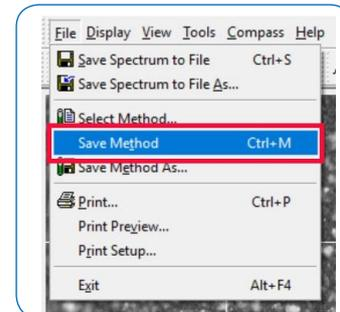

Figure 4.11. Saving the method
- After changing the detector voltage, save the method under „File“ – „Save Method“ (see Figure 4.11)